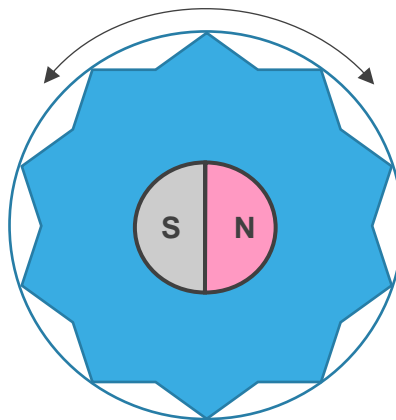
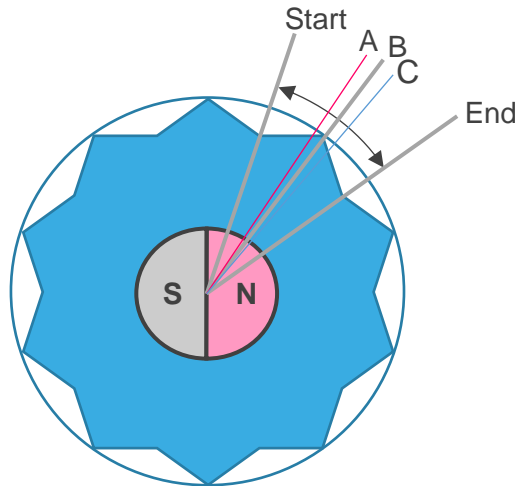

Figure 4.1 Discrete Mechanical Intervals
Figure 4.2 Interval UI Hysteresis
Figure 4.1 illustrates an example wheel with 10 intervals. The IQS624-32 can be configured to generate an event on each interval. Configure the following registers for setup:
4. The interval register will increment every 36 degrees. If the wheel is zeroed using discrete mechanical intervals (Figure 4-1), half an interval should be added to the Wheel Zero Offset (0x7E-0x7F). With this offset, the interval register should increment when the wheel has moved half of the interval as shown by B in Figure 4.2.
A 1-degree hysteresis is applied in the direction of rotation, resulting in two degrees of hysteresis at the interval change. This reduces the influence of jitter. In Figure 4.2, the interval will increase when